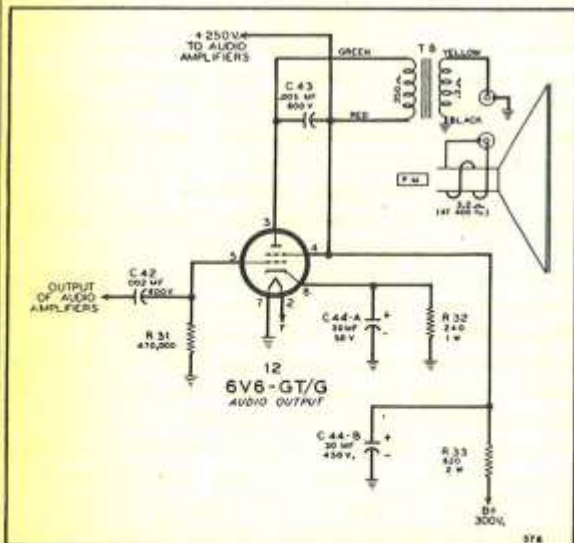

Figure 16. Audio Output Stage
The audio output stage (see figure 16) employs a conventional single-ended 6V6GT output tube (12) driving a 6-inch PM speaker with a 3.2-ohm voice coil. The over-all distortion is less than 5% at 2 watts and starts to break up at slightly over 3 watts. Resistor R33 and capacitor C44-B prevent audio current changes from modulating the 300-volt d-c supply to the rest of the receiver.